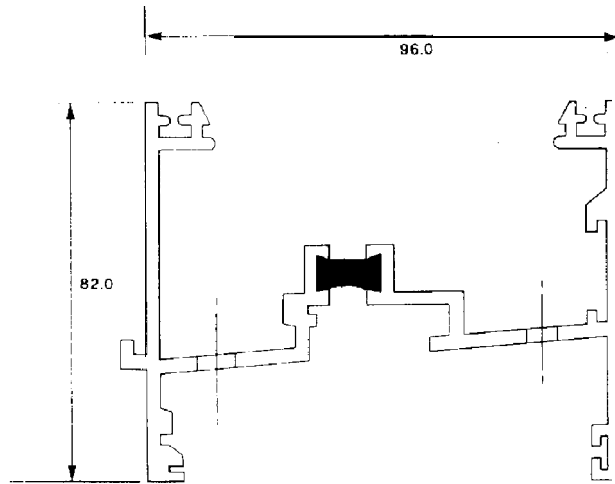

Figure 4.1 - PATIO HEAD
3. COMPONENT IDENTIFICATION (Figs 4.1, 4.2 and 4.3)